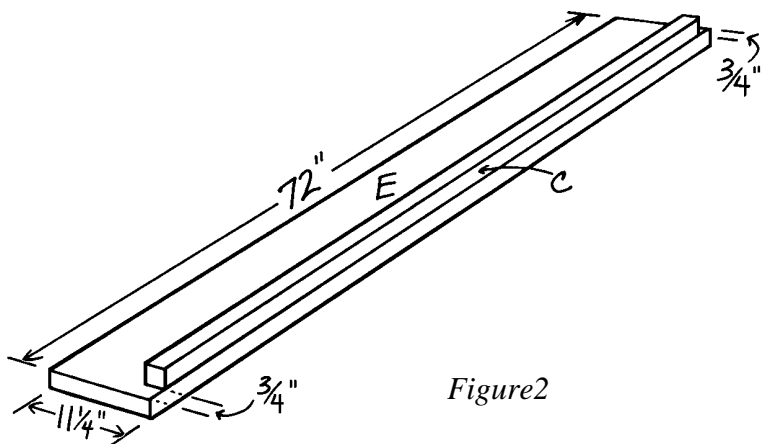

Figure 2
1. Cut two 72"-long sides (E) from 1 x 12 pine
2. Glue one inner vertical support (C) flush with one 70-1/2"-long edge of one side (E), as shown in *Figure 2*. Center the inner vertical support (C), leaving a 3/4" gap at each end of the side (E). Secure the support with 3d finishing nails spaced about 6" apart.
3. Repeat Step 2 to attach another inner vertical support (C) to the remaining side (E).
4. Cut one 70-1/2" long inner divider (F) from 1 x 12 pine.